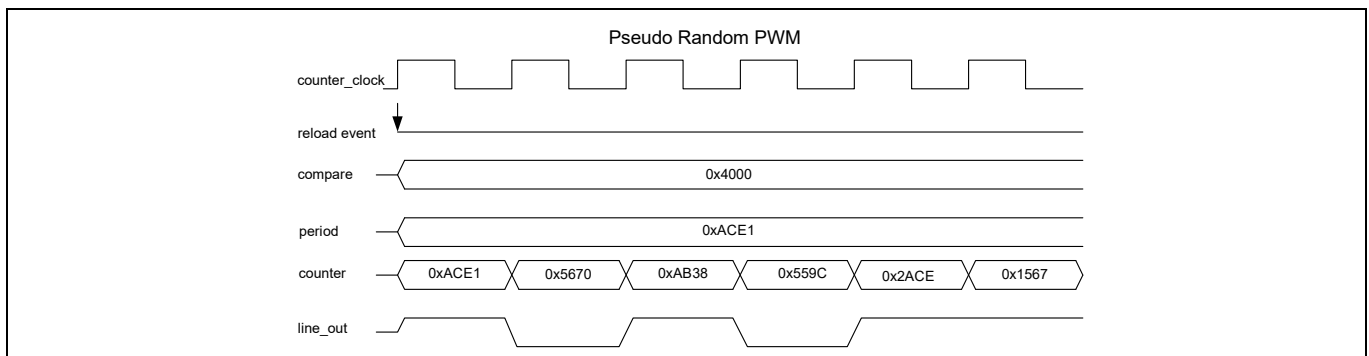

Figure 21-76. Timing diagram for pseudo-random PWM
- CC condition occurs when the counter is running and its value equals compare value. **Figure 21-76** illustrates pseudo-random noise behavior.